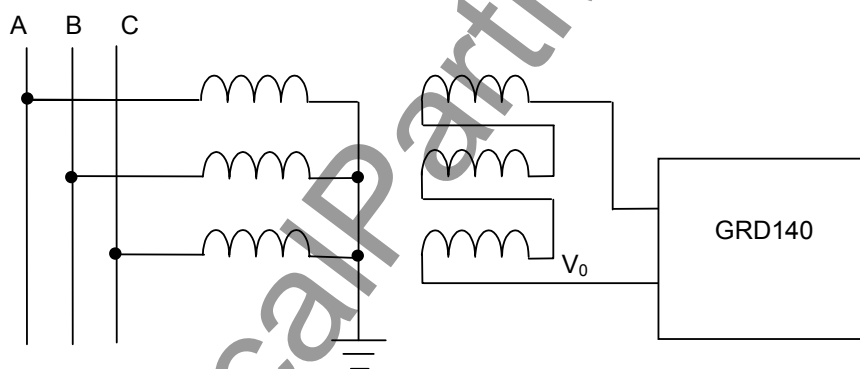

Figure 2.2.9 Earth Fault Detection on Unearthed System
- Measuring the zero sequence voltage produced by VT residual connection (broken-delta connection) as shown in Figure 2.2.9.